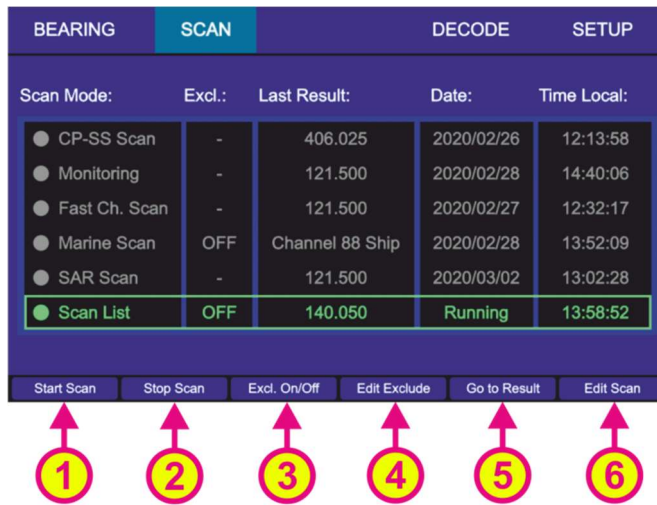

Figure 60. "Scan List" is activated.
- To start the “Scan List” mode select the corresponding line on the “Scan” page and press “OK” or the hotkey “Start Scan” (s. Figure 60, position 1).
- Pressing the hotkey “Stop Scan” (s. Figure 60, position 2) will terminate the scan mode and change to the bearing of the frequency, that was set before the scan mode has been activated.
- The hotkey “Excl. On/Off” is only visible if “Marine scan” or “Scan List” is marked (s. Figure 60, position 3).
- “Edit Exclude” is only visible, if “Marine scan” or “Scan List” is marked (s. Figure 60, position 4).
- Pressing the hotkey “Go to Result” (s. Figure 60, position 5) during the scan list mode is currently running, will interrupt the scan mode, and open the “Result List”, where you can select the next action (s. Figure 61). This hotkey appears only if there is a result for this scan.
- Pressing the hotkey “Edit Scan” (s. Figure 60, position 6) will open the dialog for changing the settings of the “Search List” (s. Figure 62).